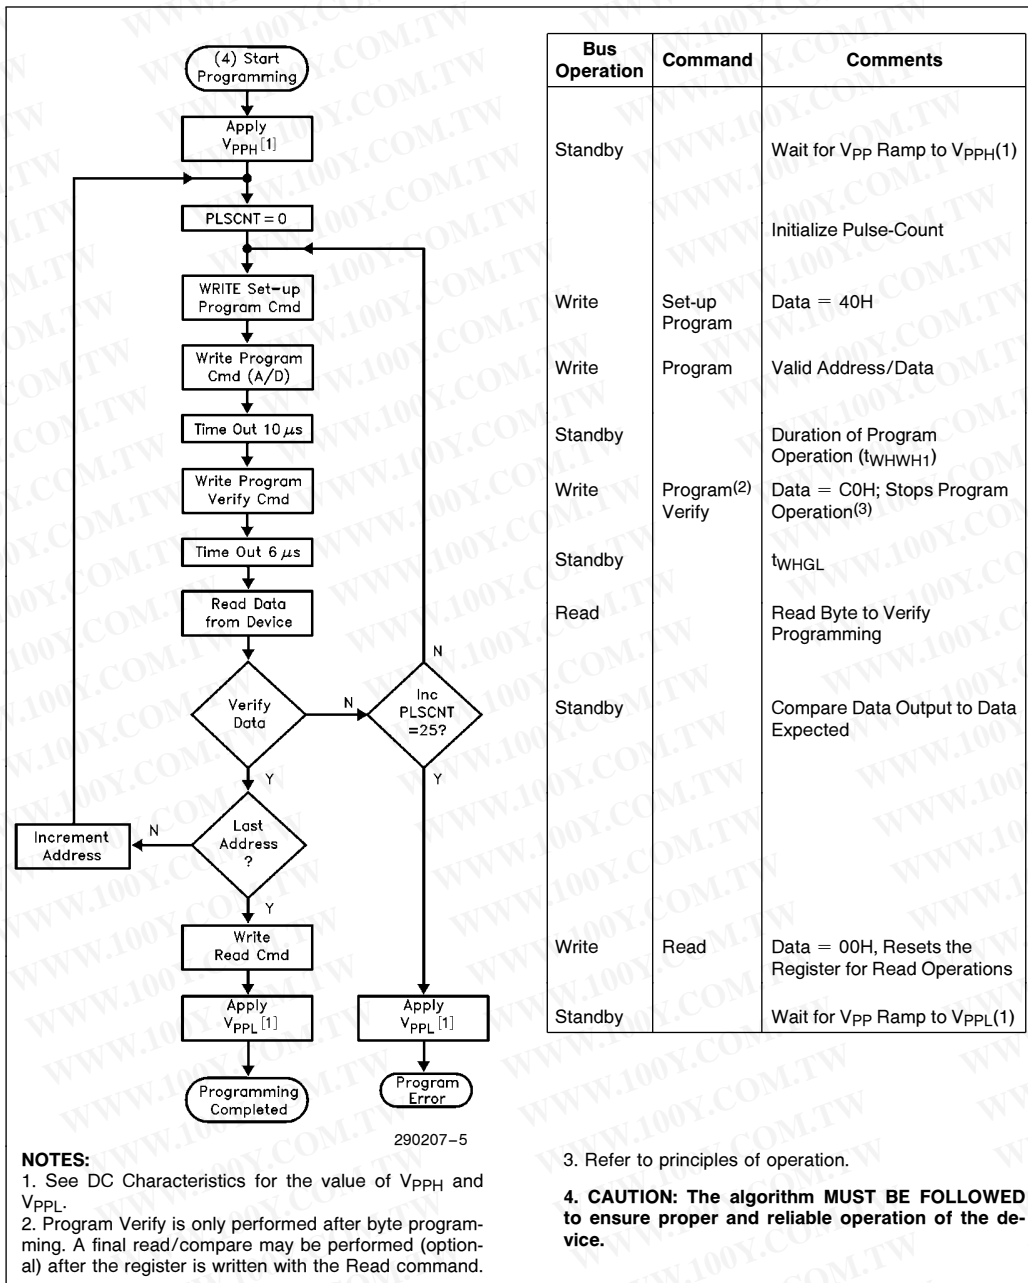

Figure 5. 28F010 Quick Pulse Programming Algorithm
- Figure 5 illustrates the Quick Pulse Programming Algorithm.
The 28F010 applies an internally-generated margin voltage to the byte. A microprocessor read cycle outputs the data. A successful comparison between the programmed byte and true data means that the byte is successfully programmed. Programming then proceeds to the next desired byte location. Figure 5, the 28F010 Quick Pulse Programming algorithm, illustrates how commands are combined with bus operations to perform byte programming. Refer to AC Programming Characteristics and Waveforms for specific timing parameters.
The Quick Pulse Programming algorithm uses programming operations of 10  $\mu$ s duration. Each operation is followed by a byte verification to determine when the addressed byte has been successfully programmed. The algorithm allows for up to 25 programming operations per byte, although most bytes verify on the first or second operation. The entire sequence of programming and byte verification is performed with  $V_{PP}$  at high voltage. Figure 5 illustrates the Quick Pulse Programming algorithm.